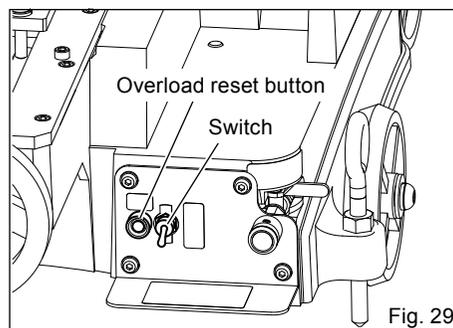

Fig. 29
## 3. If the motor stops while cutting (Fig. 29)
- (1) Set the ON/OFF switch to the "OFF" position.
- (2) Eliminate the cause.
- (3) Press the RESET button below the ON/OFF switch (Fig. 29)